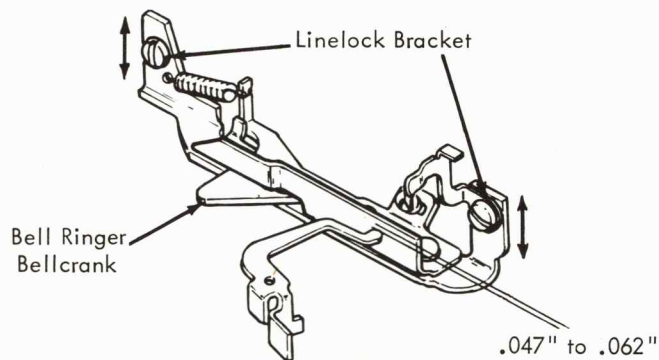

FIGURE 182A. Line Lock Bracket
6. Line Lock Bracket - Adjust the line lock bracket up or down so that the bellringer bellcrank will ride  $.047"$  to  $.062"$  from the bottom as the carrier moves into the line lock position. (Fig. 182A).